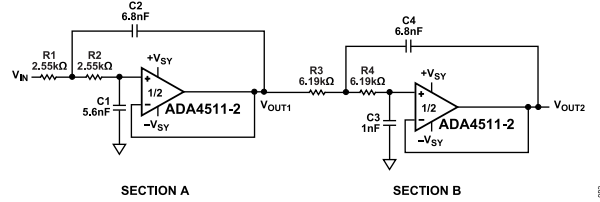

Figure 87. 4-Pole Low-Pass Filter with  $-3 \text{ dB}$  Bandwidth of  $10 \text{ kHz}$
The high-input impedance, high bandwidth, low-input bias current, and DC precision make the ADA4511-2 a good fit for active filter applications. Figure 87 shows the ADA4511-2 in a 4-pole Sallen-Key Butterworth low-pass filter configuration. The 4-pole low-pass filter has two complex conjugate pole pairs and is implemented by cascading two 2-pole low-pass filters. Section A and B are configured as 2-pole low-pass filters in unity gain. Table 7 shows the quality factor (Q) requirement and pole position associated with each stage of the Butterworth filter. For pole locations on the s plane and Q requirements for filters of a different order, refer to the Chapter 8, Analog Filters, in the Linear Circuit Design Handbook, available at [www.analog.com/AnalogDialogue](http://www.analog.com/AnalogDialogue).